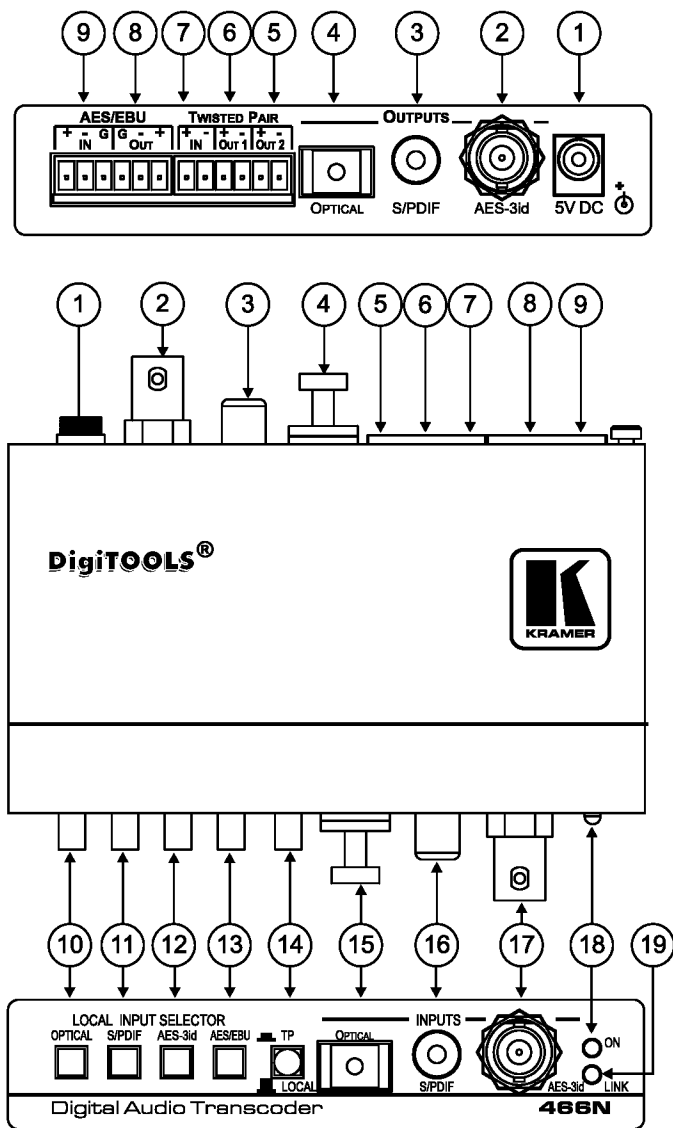
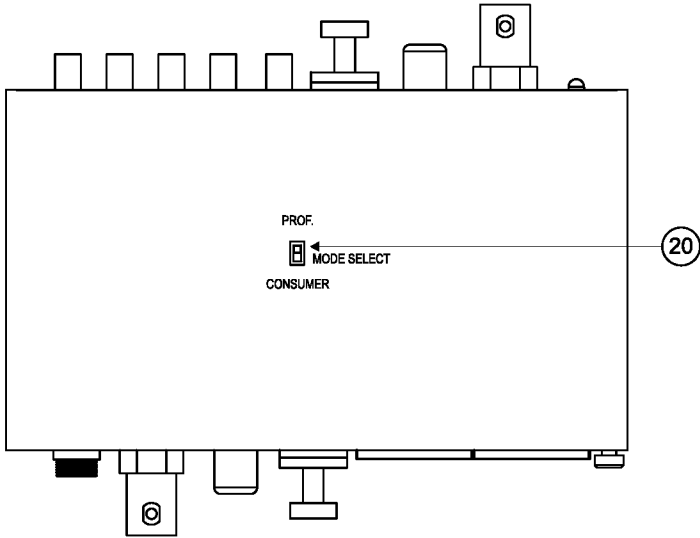

Figure 1: 466N Digital Audio Transcoder
Figure 2: 466N Digital Audio Transcoder Underside Mode Selection Switch
Figure 1 and Table 1 define the 466N Digital Audio Transcoder, Figure 2 and Table 2 define the underside features:
5. Set the MODE SELECT switch button to PROF. or CONSUMER, as required (see *Figure 2*).
- Set the MODE SELECT switch button to PROF. or CONSUMER, as required (see *Figure 2*)
- Set the MODE SELECT switch button on each 466N unit to PROF. or CONSUMER, as required (see *Figure 2*)
4. Set the MODE SELECT switch button on each **466N** unit to PROF. or CONSUMER, as required (see *Figure 2*).